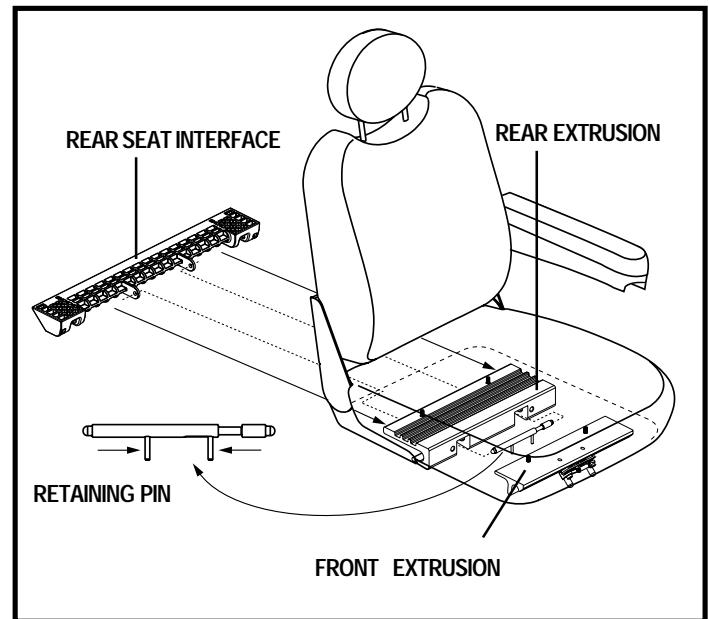

Figure 11. Assembly View (Rear Seat Interface Installation)
1. Slide the rear seat interface into the rear extrusion. See figure 11.